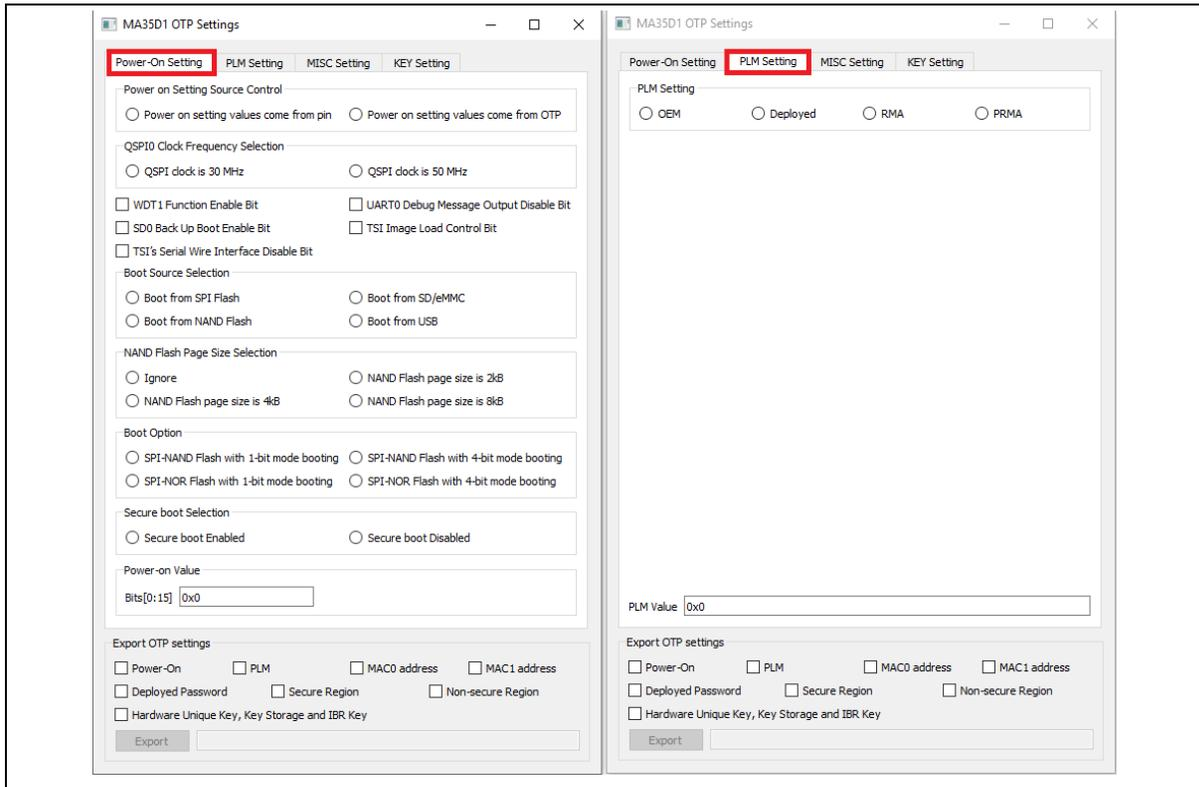
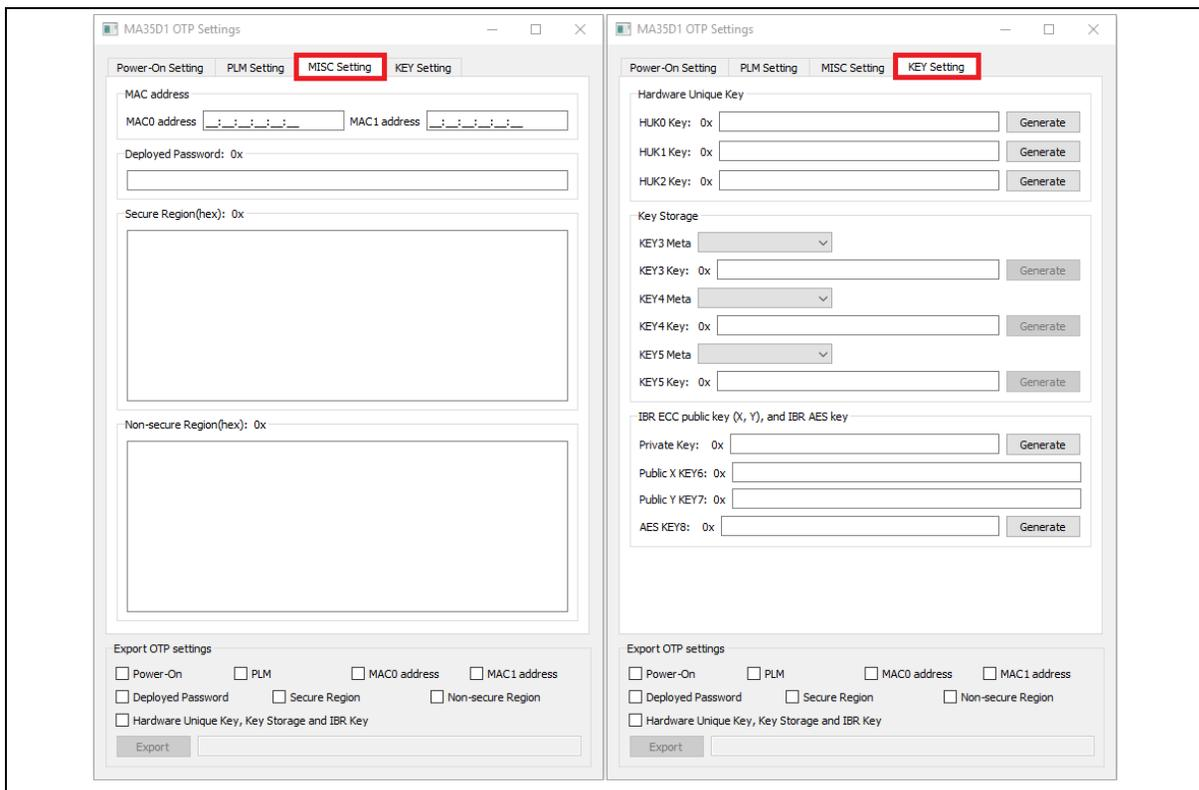

Figure 7-14 OTP Setting Page - 1
Figure 7-15 OTP Setting Page - 2
2. Enable / Disable OTP setting. Figure 7-14 and Figure 7-15